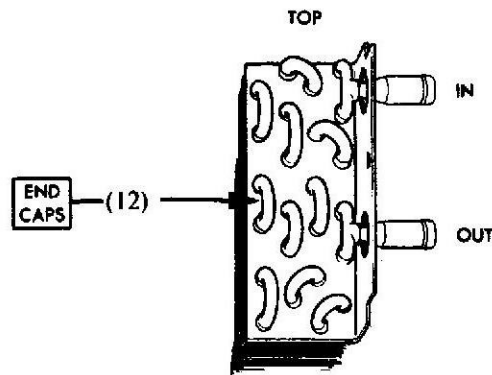

Fig. 1 Heater Core End Caps
NOTE: It is suggested that the heater core end caps be checked for proper positioning at this time (see Fig. 1).
- (1) Remove heater core as described on page 3D-8, Volume 3 of the 1978 Jeep Technical Service Manual.
- (2) Compare heater core end cap positions with Fig. 1.